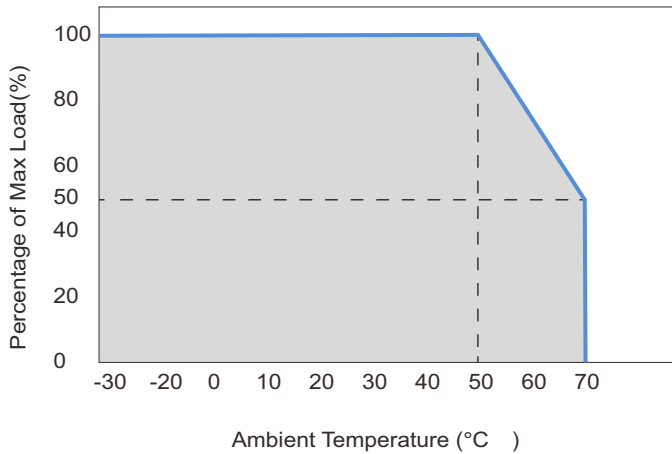

Fig. 1.
1. Power supply components may degrade, or be damaged, when the power supply is continuously used outside the shaded region, refer to the graph shown in Fig. 1.